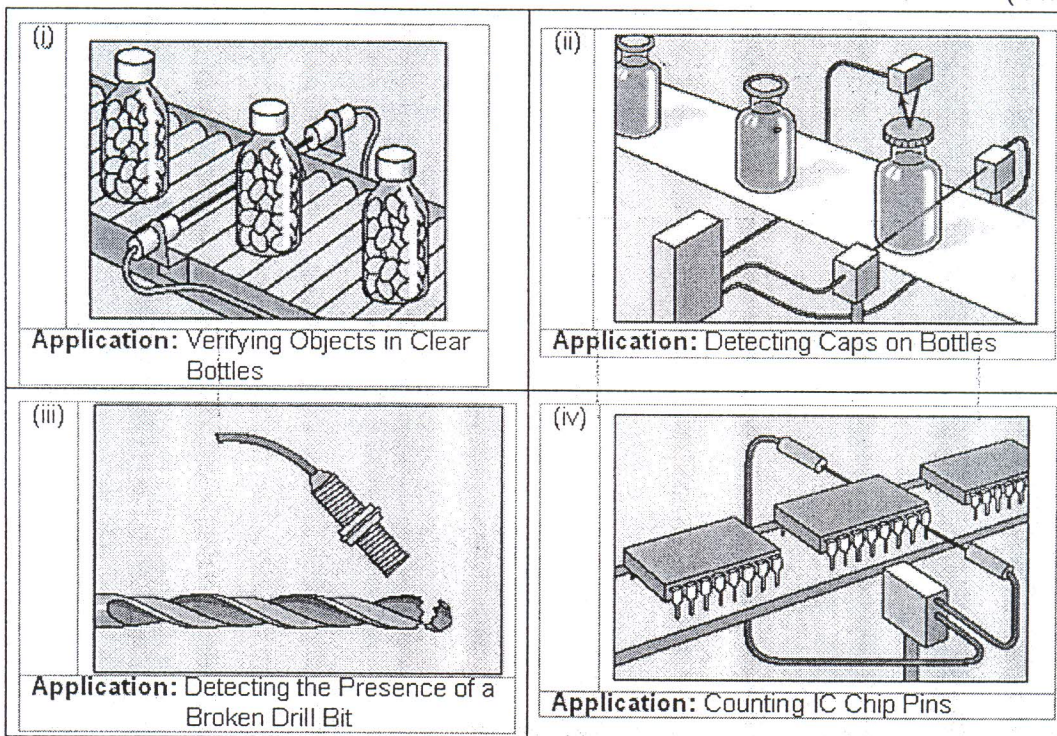

Figure 4: Sensor Applications
- (c) Select the most suitable sensor for applications in **Figure 4**.